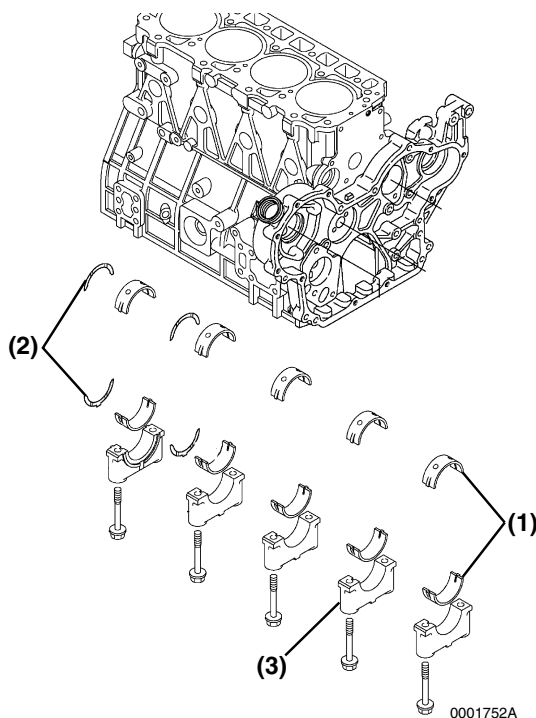

Figure 6-134
2. Reinstall new bearing inserts **(Figure 6-134, (1))** and thrust bearing **(Figure 6-134, (2))** in the cylinder block and main bearing caps. Apply a liberal coat of clean engine oil to the bearings and crankshaft journals.
4. Reinstall the main bearing caps **(Figure 6-134, (3))**.